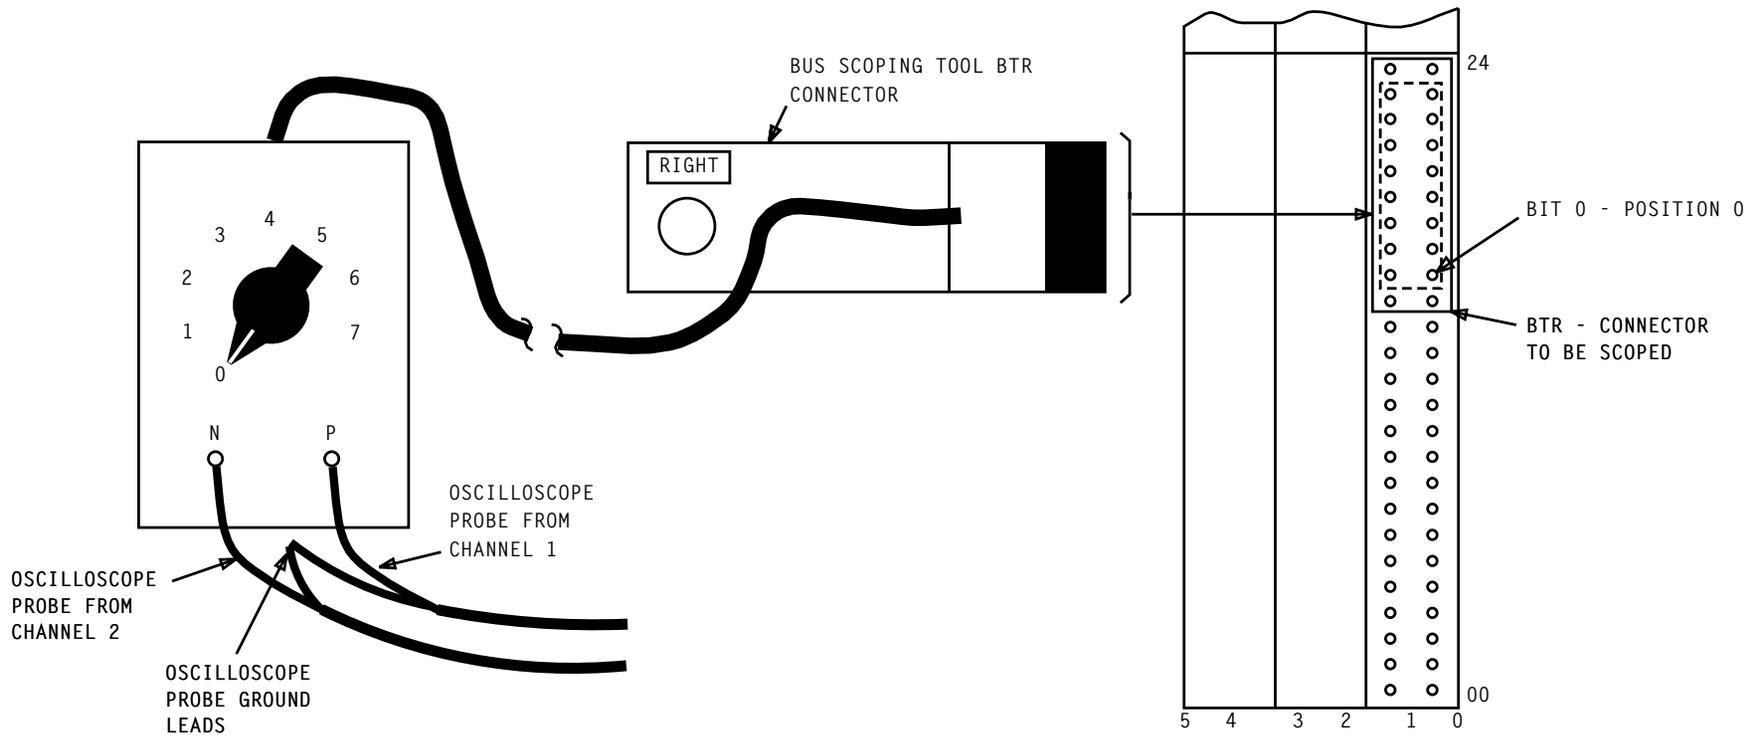

Figure 2 - Bus Scoping Tool, Oscilloscope Probes and BTR Connections for Scoping Auxiliary Unit Bus (AUB)
[2] Connect bus scoping tool to BTR on applicable API unit (0 or 1) [Figure 2, Page 3]
[3] Connect one X10 probe to channel 1 of oscilloscope and positive (P) pin of bus scoping tool [Figure 2, Page 3]
[4] Connect another X10 probe to channel 2 of oscilloscope; wrap channel 2 probe lead around channel 1 probe lead and connect to negative (N) pin of bus scoping tool [Figure 2, Page 3]